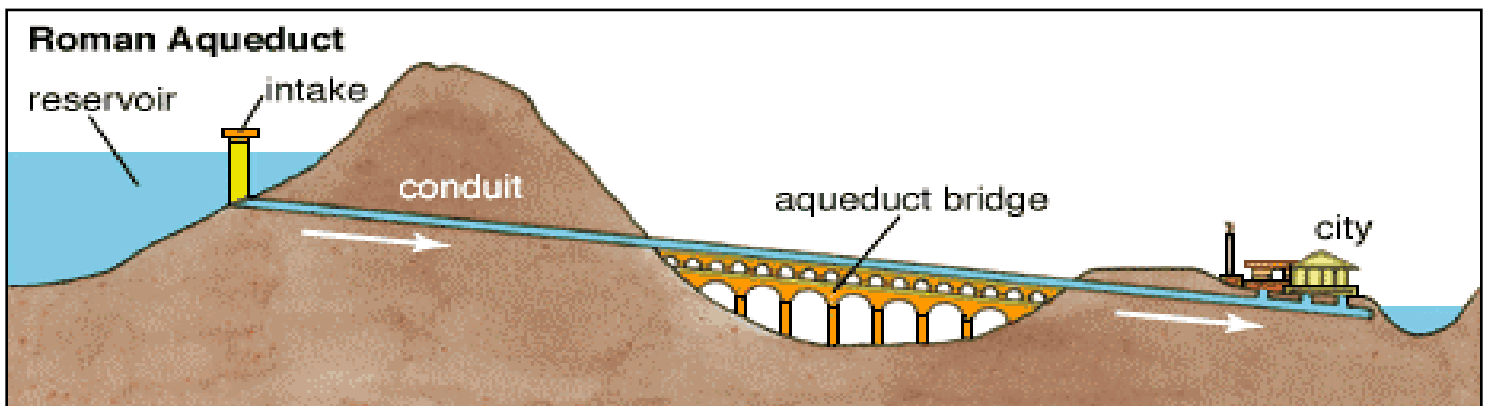

Figure 1.5: Early water systems in the Roman Empire worked by the force of gravity alone.
- The **Roman Aqueducts** carried water by gravity to cities throughout the Roman Empire (See **Figure 1.5**). The first Roman aqueduct was constructed in 312 BC. Most were underground, but those that were above ground used arched bridges to transport water over irregular terrain. Water from aqueducts was stored in reservoirs and piped to bathhouses, public fountains, and private homes of wealthy and influential citizens.